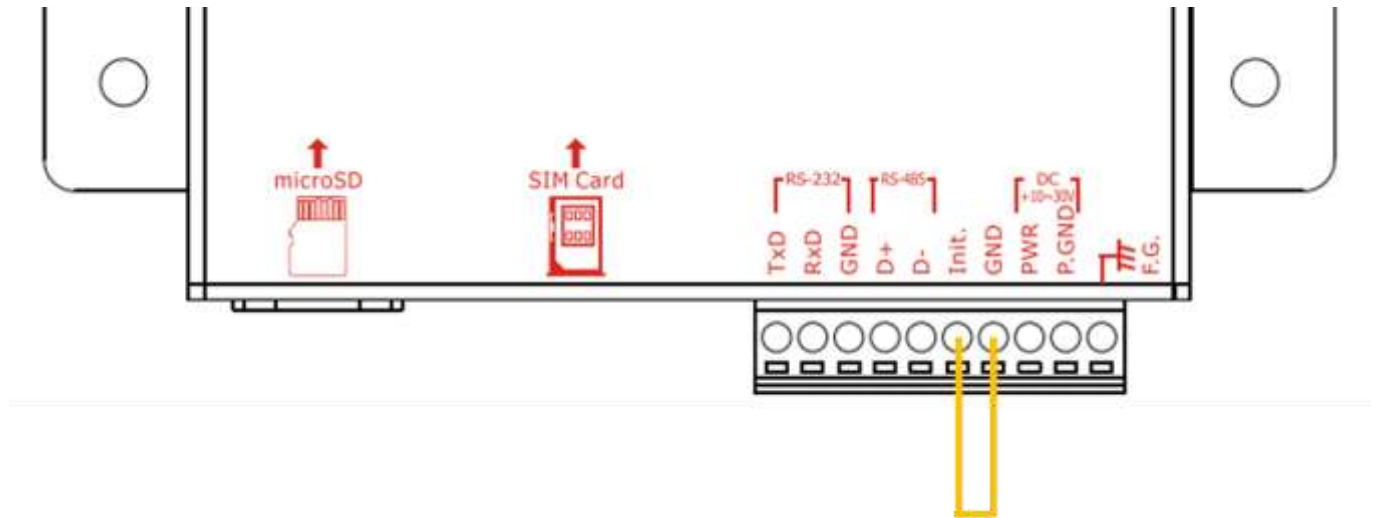

Figure 7.10.1
A. Confirm whether the 4th Pin and the 5th Pin of GTP-541M are connected, as shown in Figure 7.10.1